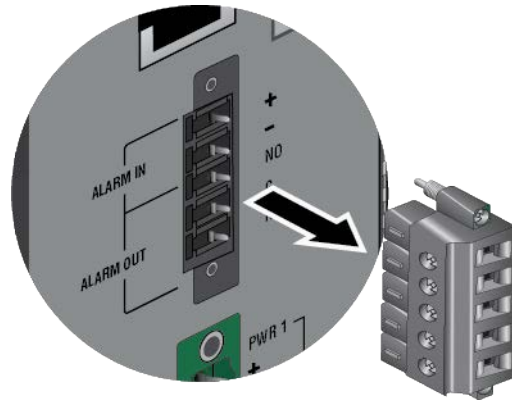

Figure 48. Removing the ALARM IN / ALARM OUT Plug
5. Remove the ALARM IN / ALARM OUT plug. Refer to Figure 48 on page 103.